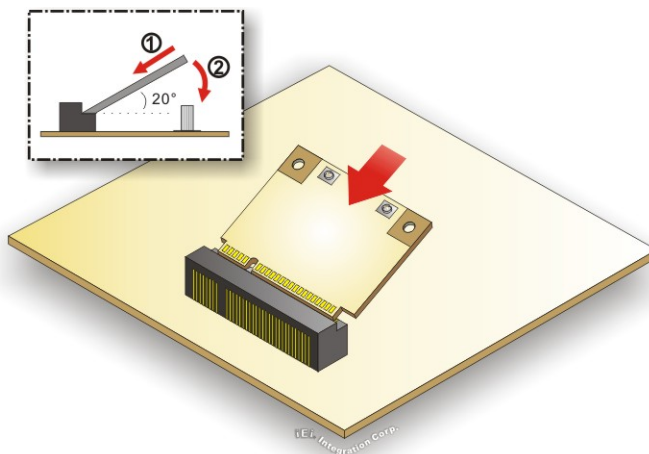

Figure 3-16: Inserting the WLAN Module
Step 5: Line up the notch on the WLAN module with the notch on the slot. Slide the WLAN module into the slot at an angle of about 20° (**Figure 3-16**).